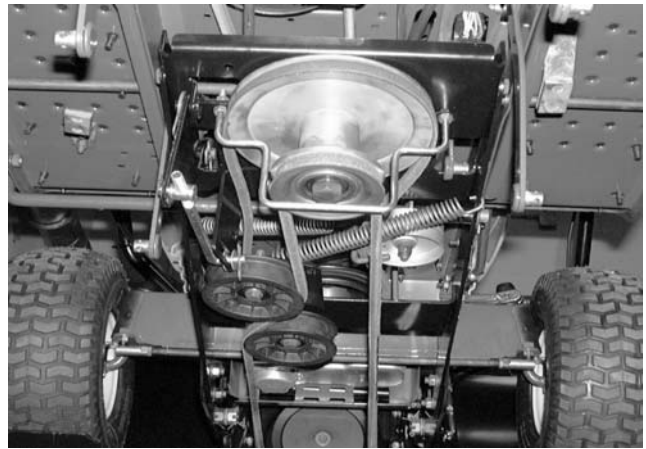

Figure 12-88.
37. Route the belt around idler pulleys and bottom pulley on rear idler bracket assembly. See Figure 12-88.